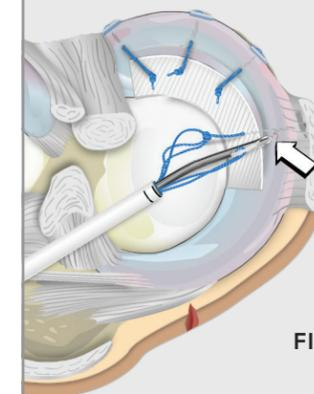

FIG. 8B.
- The second stitch, and those after, are vertical suture stitches and placed from posterior to anterior. **FIG 8B**